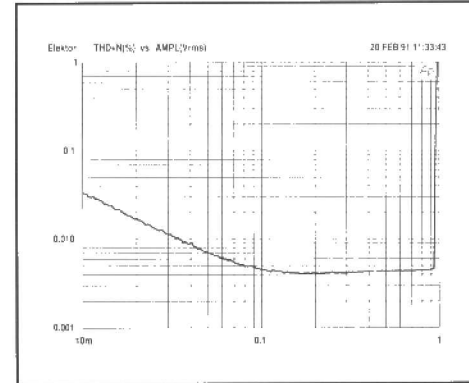

Fig. 5. Harmonic distortion vs the drive voltage to the output amplifier stages.
Dear Editor—I was most interested in the above article (October 1991, pp. 52–55) and feel that congratulations should go to the author for presenting such a novel approach to the subject. I am considering the construction of the circuit, but would appreciate clarification of one or two points regarding Figure 5: (1) C47 and C48: I can find no detail on these capacitors in the text as the asterisks suggest there should be; (2) IC3 4046 phase-locked loop: the connections shown for the 4046 suggest that only the phase comparators I and II sections of the IOC are used in this application, but *not* the VCO and source follower. Is this correct? If so, I do not understand the function of the 'inhibit control' (pin 5) as my understanding is that this control only has effect on the VCO